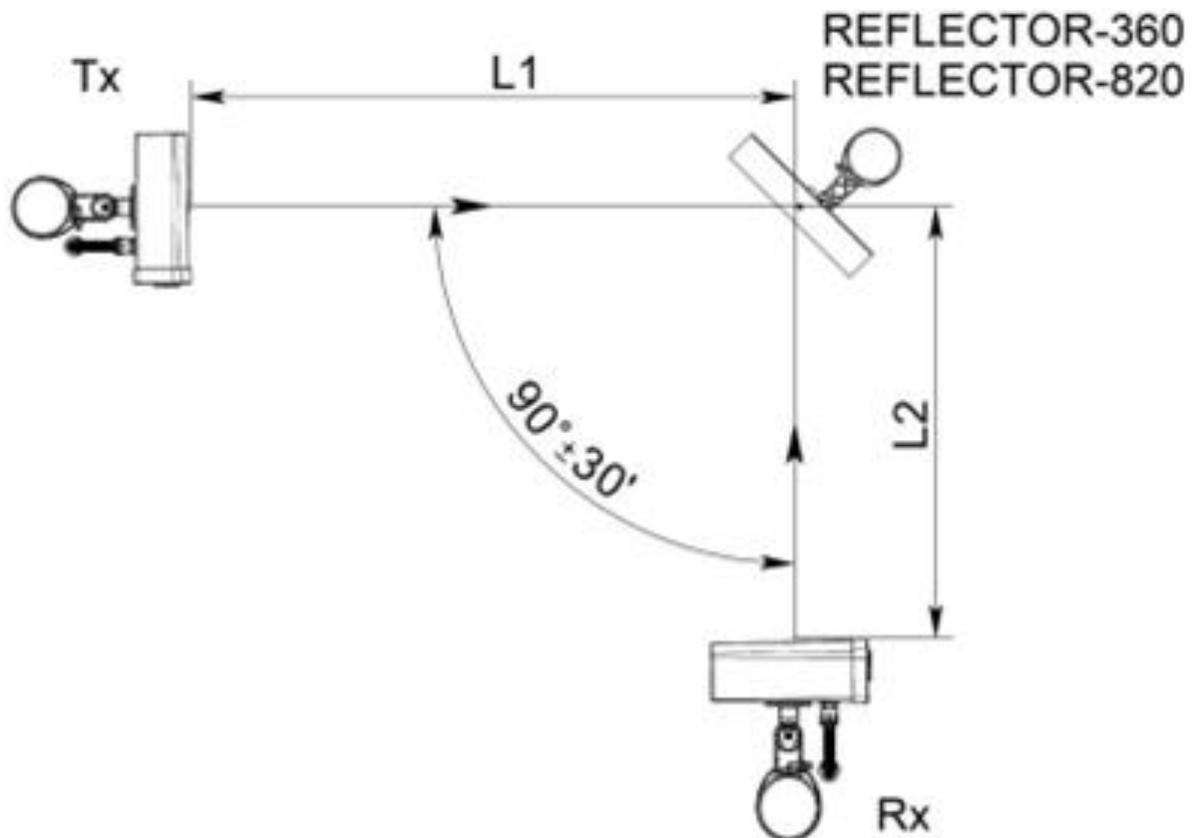

Figure 2.14 – Installation of the sensors using REFLECTOR-360 (REFLECTOR-820)
2.3.9.2 When the sensor is used with REFLECTOR-360 (see Figure 2.14) the total length of the detection zone $L1+L2$ (where $L1$ – distance between Tx and the reflector, $L2$ – distance between the reflector and Rx) should not exceed:
- 2.3.9.3.1 Mount the Tx unit, Rx unit and the reflector according to pp. 2.3.1-2.3.3 of the present User Manual and Figure 2.14. Mount the Tx unit, Rx unit and the reflector on the same height respectively to the ground.